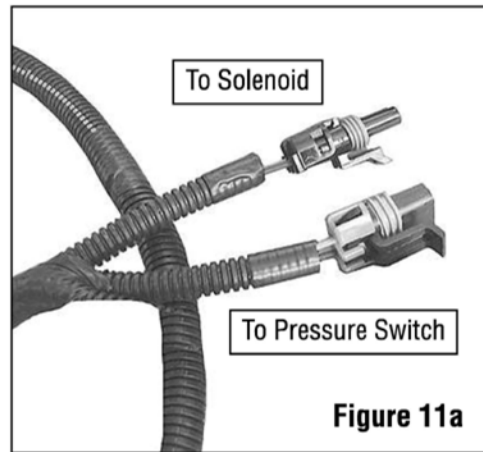

Figure 11a
- 27b.** The solenoid connector is a Weather-Pack type. The pressure switch connector is a Metri-Pack type. *Figure 11a*